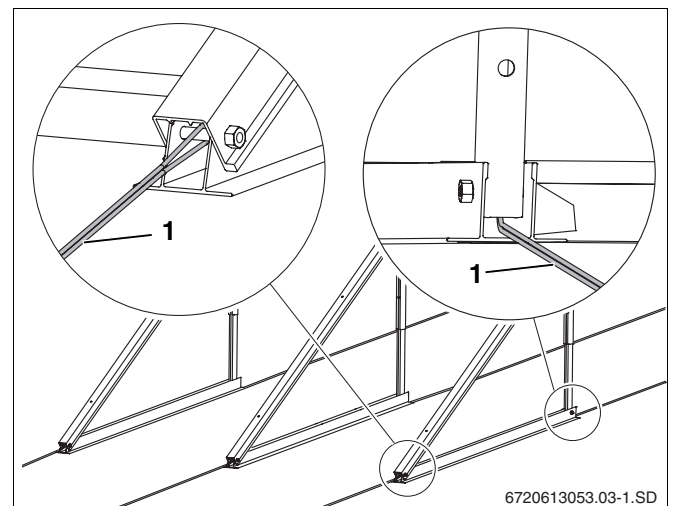

Fig. 28 Flat roof support with ropes
- ▶ Fasten each collector on site to the screw on the lower profile and to a suitable point on the roof, using at least 2 wire ropes (Fig. 28, **Item 1**).